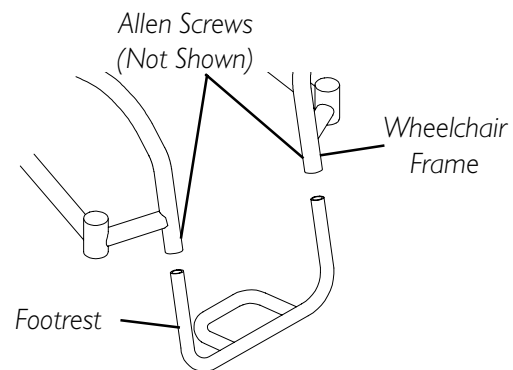

FIGURE 1 - ADJUSTING/REPLACING STANDARD FOOTREST
ADJUSTING/REPLACING STANDARD FOOTREST (FIGURE 1)
REPLACING REAR ELASTOMERS (FIGURE 1)
- Reinstall the nylon washers, NEW UPPER and LOWER elastomers determined in STEP 1 and recessed spacer into the suspension tube with the mounting bolt. Refer to FIGURE 1 for hardware orientation.